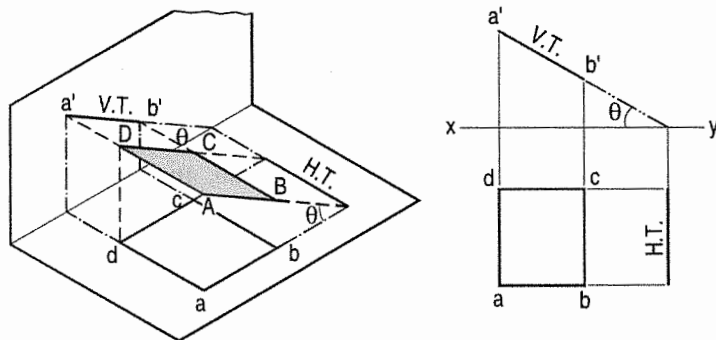

FIG. 12-4
- (b) Plane, perpendicular to the V.P. and inclined to the H.P. (fig. 12-4).